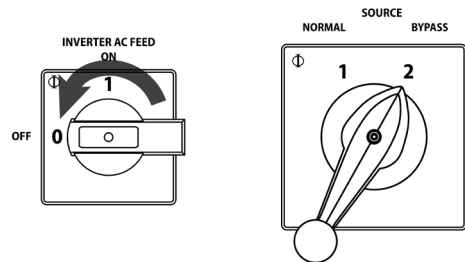

Figure 19. Turning off AC FEED
Step 5. Turn INVERTER AC FEED switch or breakers to position 0 (*OFF/OPEN*). See Figure 19.